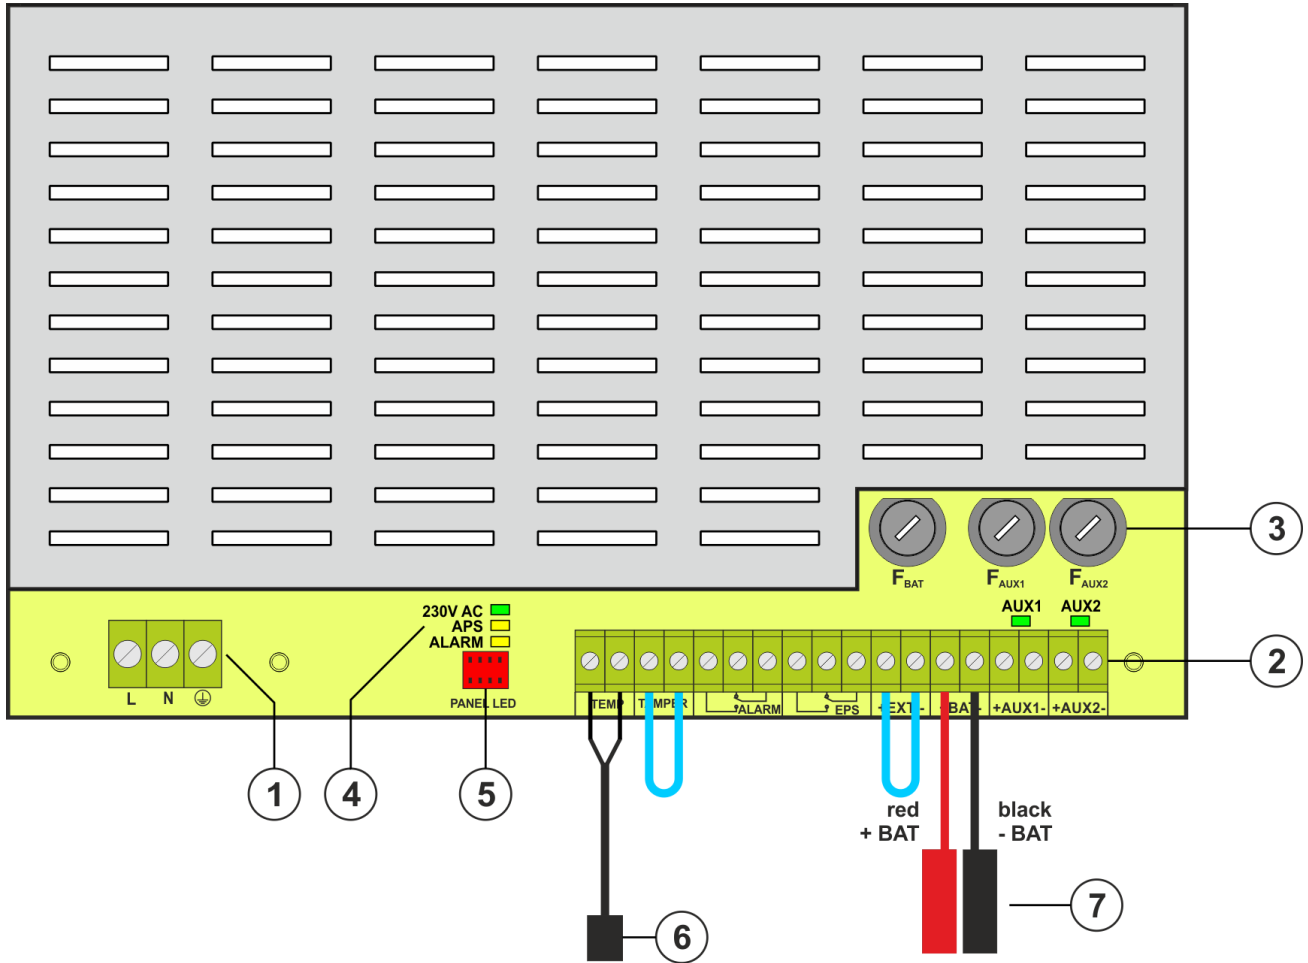

Fig. 2. View of power supply module based on EN54C-2A7.
Table 1. Elements of the PSU (Fig. 2).
①	230 V supply connector with a terminal for connection of a protective conductor
②	<p>Terminals:</p> <p>TEMP – input of the battery temperature sensor</p> <p>TAMPER – input of the microswitch tamper Closed input = no indication Open input = alarm</p> <p>ALARM – technical output of collective failure of the PSU - relay type</p> <p>EPS – technical output of AC power failure indication open = AC power failure closed = AC power - O.K.</p> <p>EXTi – external failure input Closed input = no indication Open input = alarm</p> <p>+BAT- – terminals for connecting the battery</p> <p>+AUX1- – AUX1 power output (- AUX=GND)</p> <p>+AUX2- – AUX2 power output (- AUX=GND)</p> <p>CAUTION! In Fig.2 the set of contacts shows a potential-free status of the relay, which corresponds to power supply failure.</p>
③	<p>Fuses:</p> <p>F_{BAT} – fuse in the battery circuit,</p> <p>F_{AUX1} – fuse in the AUX1 output circuit,</p> <p>F_{AUX2} – fuse in the AUX2 output circuit,</p> <p>The fuse values are given in table 4 – „Electrical parameters”.</p>
④	<p>LEDs – optical indication:</p> <p>230 V AC – voltage in 230 V AC circuit</p>
①	PSU (Tab. 1, Fig. 2)
②	Battery temperature sensor
③	Battery connectors; positive: +BAT = red, negative: - BAT = black
④	A place for installation of additional modules
⑤	TAMPER; microswitch (contacts) of antisabotage protection (NC)
⑥	Fitting battery
⑦	Embossing for cable gland
⑧	Embossings for concealed wires
⑨	Lock